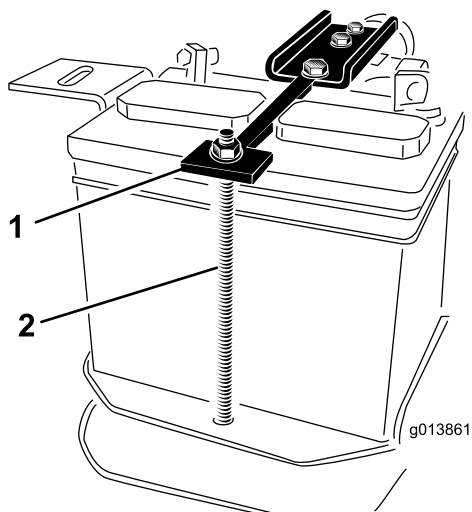

Figure 4
1. Mounting bolts (2)
17. Remove the two nuts holding the battery hold down straps in place and set the nuts, washers and bolt tube off to the side (Figure 4).